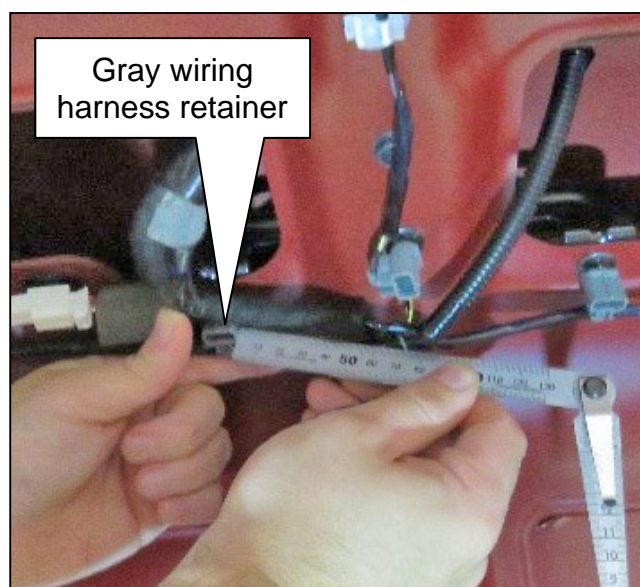

Figure 13
13. Measure approximately 15 mm from the gray wiring harness retainer, as shown in Figure 13.